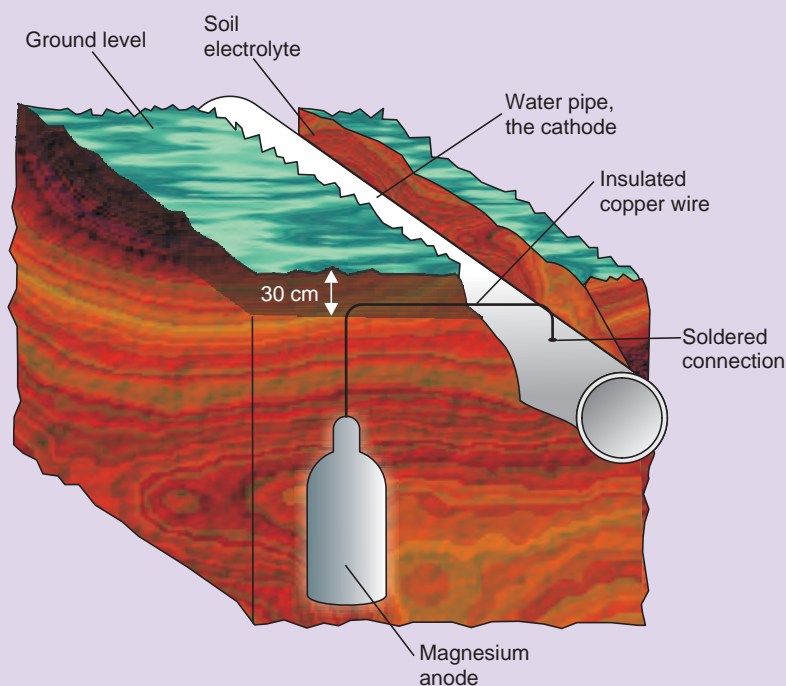

Figure 4.14 Protection of iron using magnesium.
3. What is the role of magnesium in the Figure 4.14?